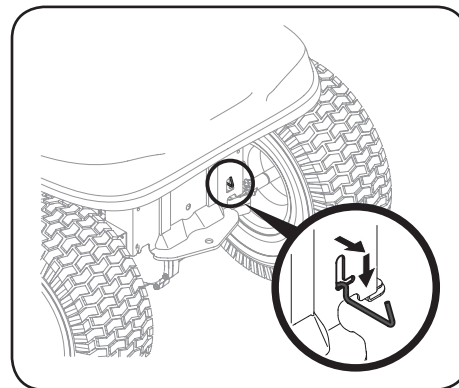

Figure 2-12
1. Locate the hydrostatic bypass rod in the rear of the tractor. See Figure 2-12.